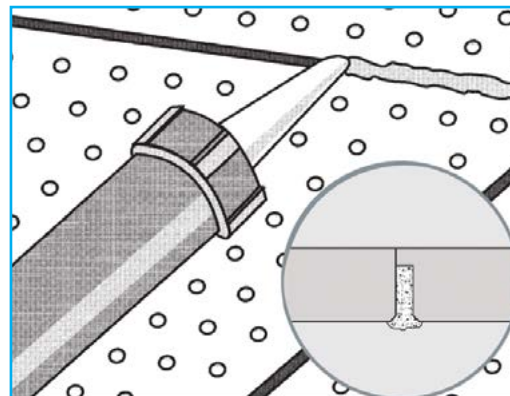

FIGURE 14 Joint Filling (with Uniflott)
- Fill joints fully with Uniflott using a caulking gun. *[Figure 14]*